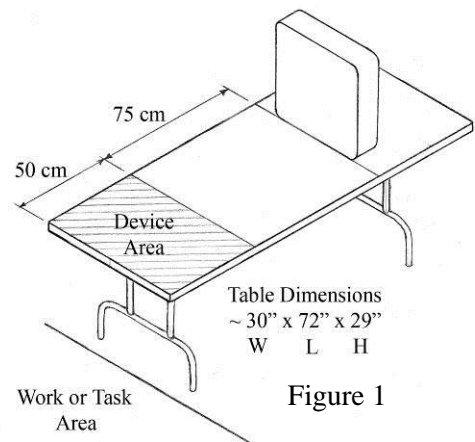

Figure 1
5. Fan, Device and Working Area: (Fig. 1)